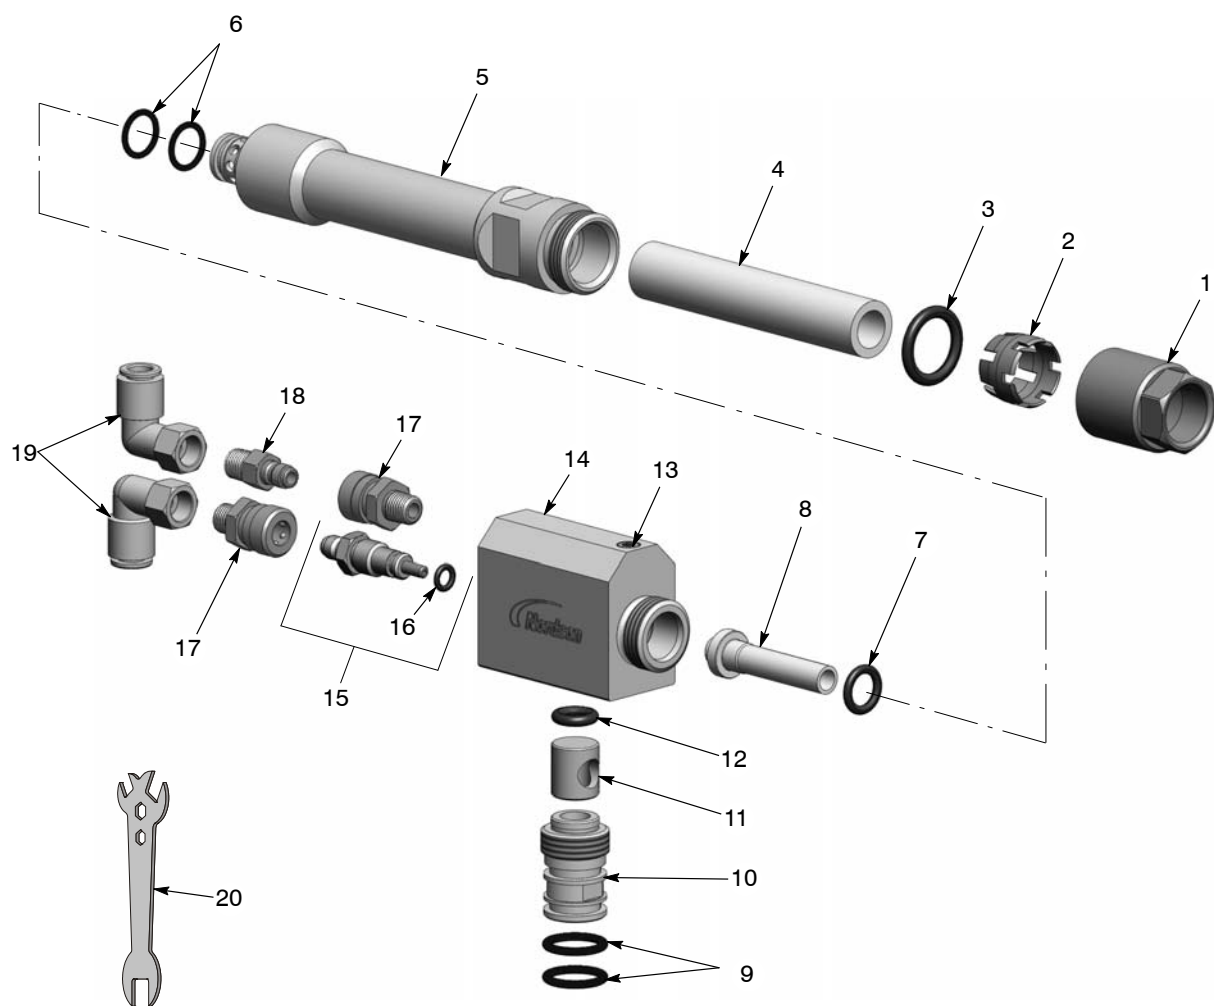

Figure 3 Pump Parts
1. See Figure 3. Unscrew the nut (1) and pull the powder hose out the throat holder (5).
2. Unscrew the throat holder (5) from the housing (14) with a 25-mm open end wrench.
3. Pull the throat (8) out of the throat holder. Remove the O-ring (7) from the throat.
See Figure 3.